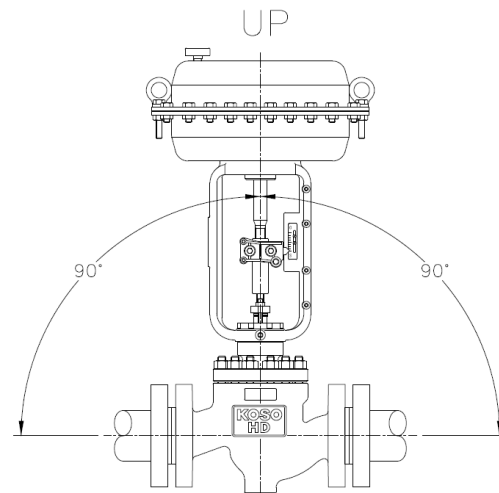

Fig. 4
- Only when the vertical installation is impracticable, the control valve may be installed in a position within the range shown in Fig. 4. However, the exhaust port of the accessories are not tuned up which are attached to the actuator. If the installed control valve is liable to external vibration or forces, an appropriate support should be provided for the control valve or the piping.